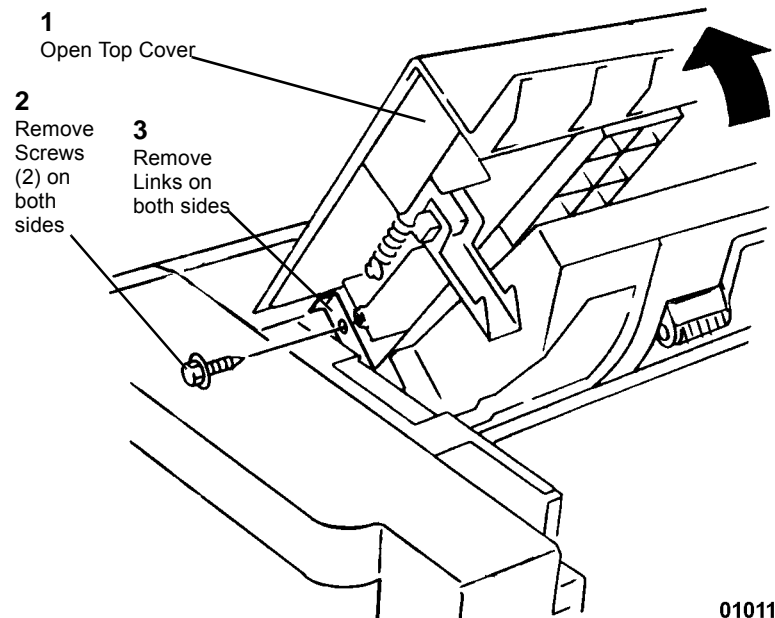

Figure 1 Removing Links from Top Cover Assembly
1. Remove the Links from the Top Cover Assembly (Figure 1).